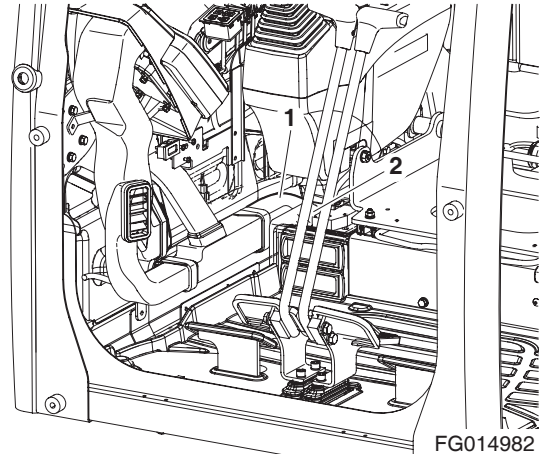

Figure 6
18. Remove air ducts (1 and 2, Figure 6) on right side of cabin from main control duct.